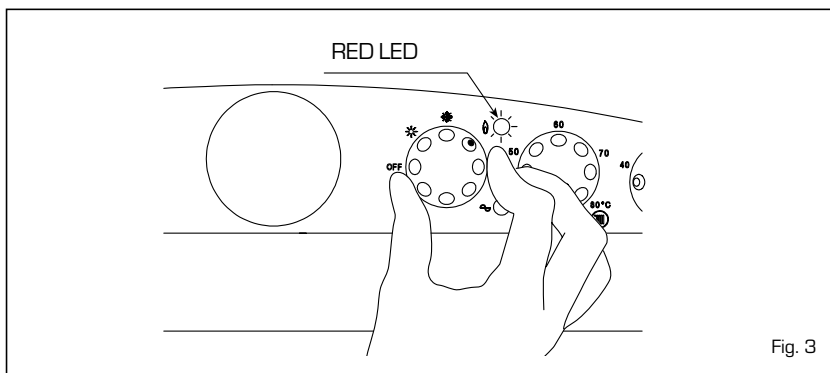

Fig. 3
- Ignition failure/safety stat interception (fig. 3)